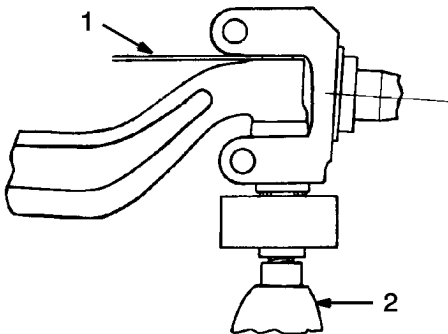

Figure 3 Place Jack Under Steering Knuckle Yoke
9. Check the spindle vertical endplay to determine if additional shimming is required. Place a jack under the lower side of the steering knuckle yoke and raise the knuckle so that all clearance is taken up between the lower yoke, the thrust bearing and the lower face of the axle center end (see Figure 3 below, Item 2). Using a feeler gage, check the clearance gap between the top face of the upper axle center end and the lower face of the knuckle pin upper boss should be **between 0.005 and 0.015 inch** or 0.127 and 0.381 mm (see Figure 3 below, Item 1). If the clearance is not within this range, adjust the clearance gap using the proper size shim(s).